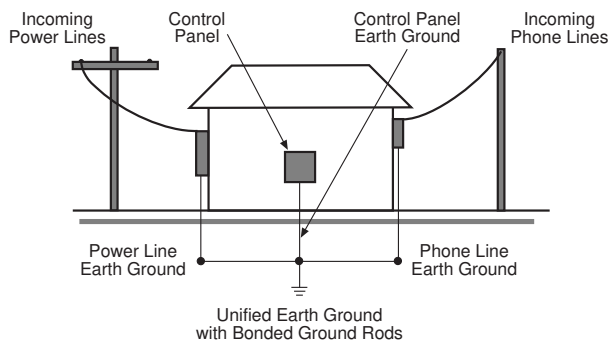

Figure 4.1e Unified Earth Ground
- **Ground the system properly.** All of the voltage transient suppression in the ESL 2501 Fire Alarm Control Panel is referenced to earth ground. It is important that the earth ground connection of the FACP be of the lowest possible impedance and that the possibility of voltage differences between the FACP ground and that of the telephone and public utility power systems be minimized. For this reason the ideal ground for the fire alarm panel is the “unified earth ground”. A unified earth ground bonds together the ground rods for the power lines, telephone, and fire alarm control panel. See Figure 4.1e. This reduces the chance of step voltage blowout, a problem that may occur during lightning strikes. Refer to NEC Article 250 for proper grounding requirements.